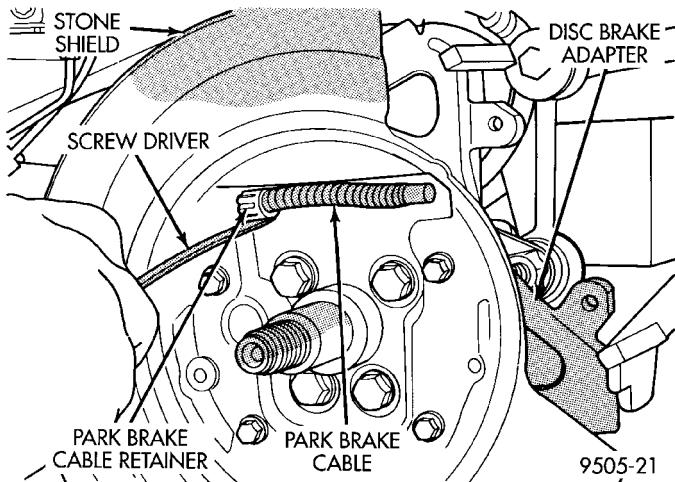

Fig. 151 Park Brake Cable Removal From Disc Brake Adapter
(21) On vehicles equipped with rear disc brakes, remove park brake cable (Fig. 151) from rear disc brake adapter. Park brake cable is removed from disc brake adapter using a screwdriver as shown in (Fig. 151) to compress locking tabs on park brake cable retainer.